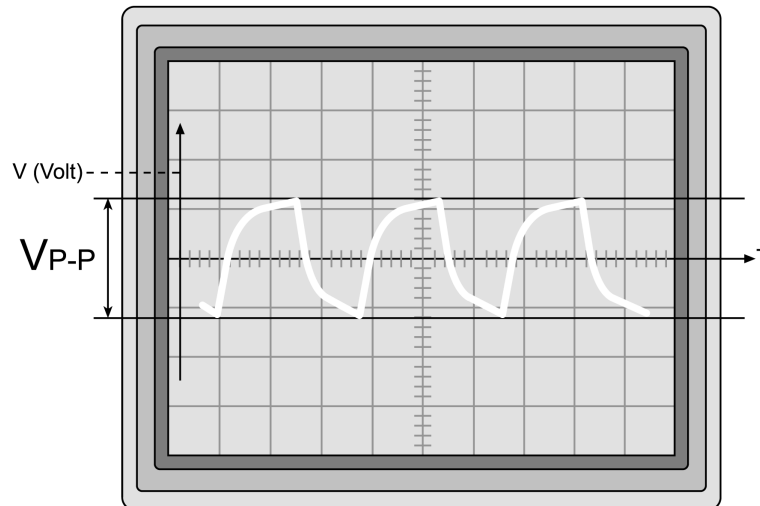

Figure 8-11: The Waveform
- 7 Adjust trimmer RV7 on the logic board until the voltage is appropriate for the specific machine, according to Table 8-6 below. At the same time, adjust the oscilloscope time base and voltage scale until the waveform shown in Figure 8-11 appears.
- 9 Adjust trimmer RV8 on the logic board until the voltage is appropriate for the specific machine, according to Table 8-7 below. At the same time, adjust the oscilloscope time base and voltage scale until a waveform like the one shown in Figure 8-11 appears.